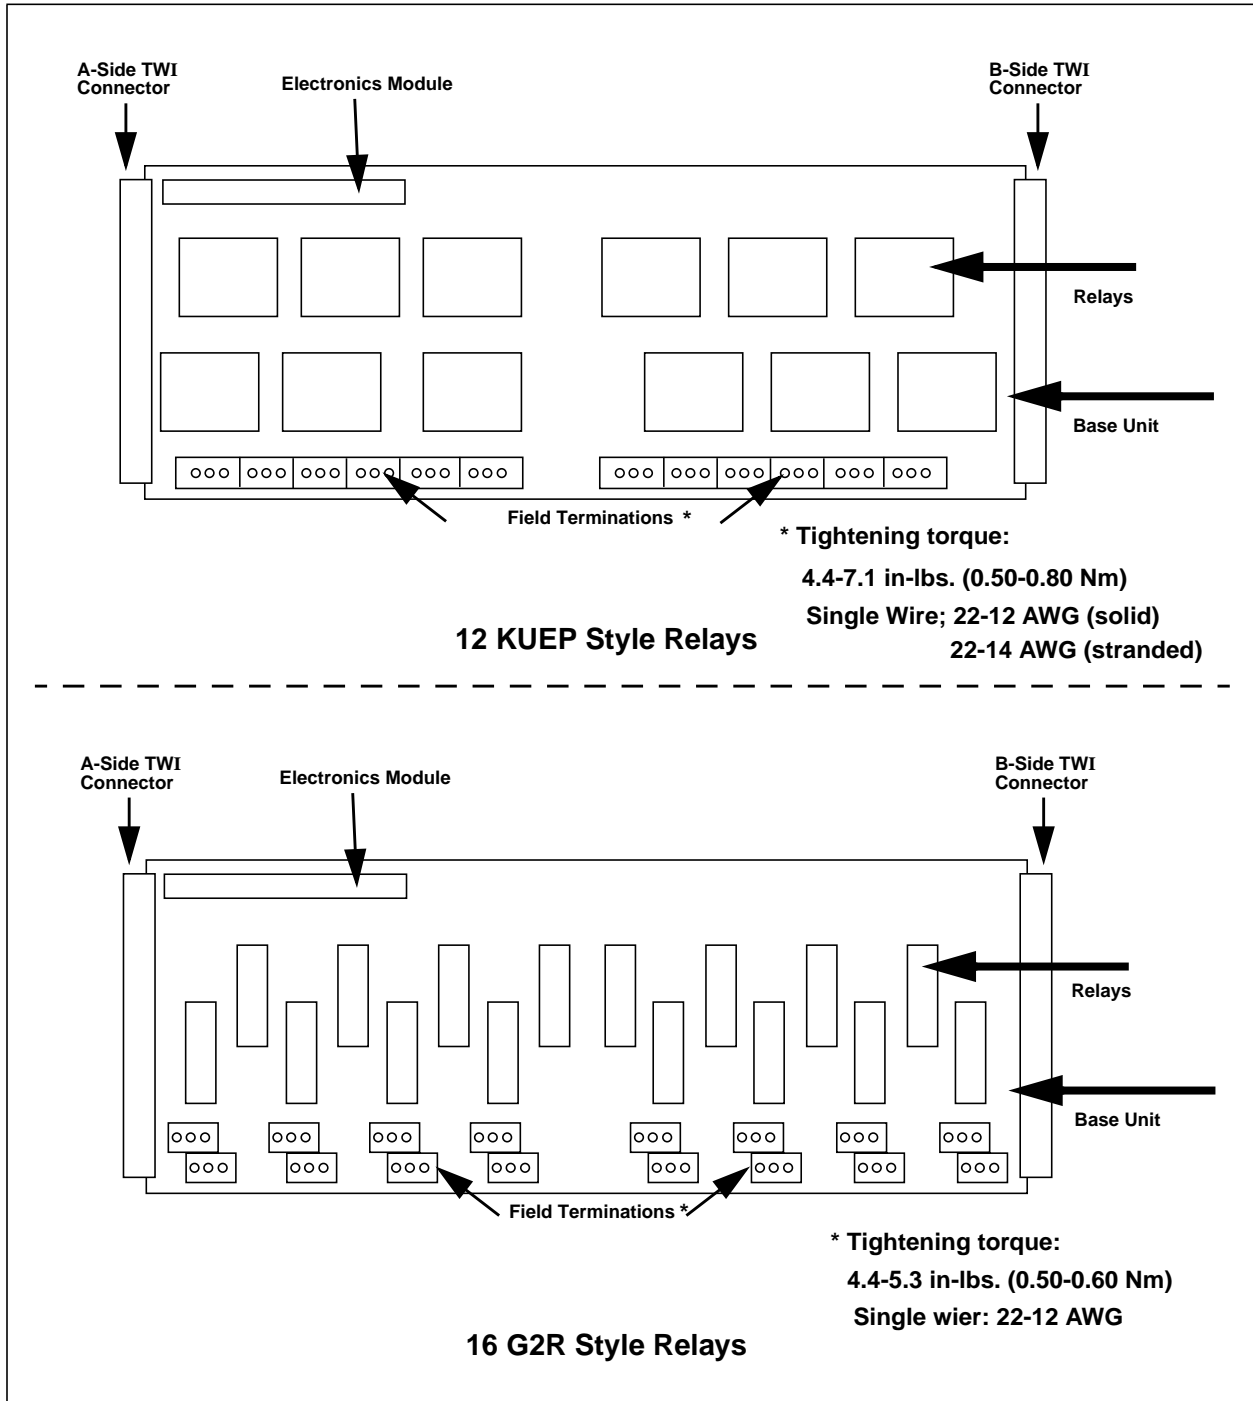

Figure 27-11. Relay Output Modules and Bases
- Relay Output Module and Bases - Relay module base, 1.5 times larger than a standard I/O base unit, containing electronics module and relays to control field devices (refer to Figure 27-11).
- Relay Output Module and Base - Relay Output I/O modules which interface to remote field devices when placed in the Remote Node cabinet (refer to Figure 27-11).
- Relay Output Module and Base - Relay module base, 1.5 times larger than a standard I/O base unit, containing electronics module and relays to control field devices (refer to Figure 27-11).